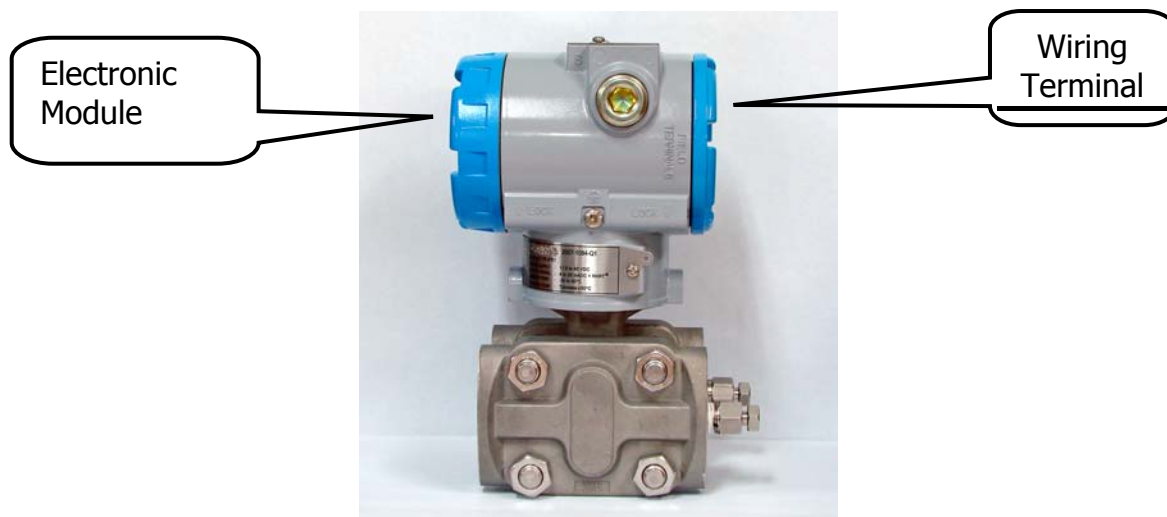

Figure 8.2 Structure of Housing
1. Disconnect the power to the transmitter. Remove the cover from the electronics side of the transmitter housing (Figure 8.2).